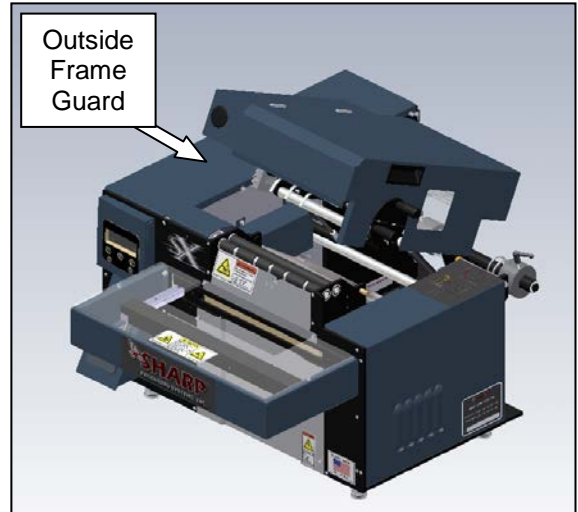

Figure 3-356. Guard Identification
1. Remove the outside frame guard (Figure 3-356).